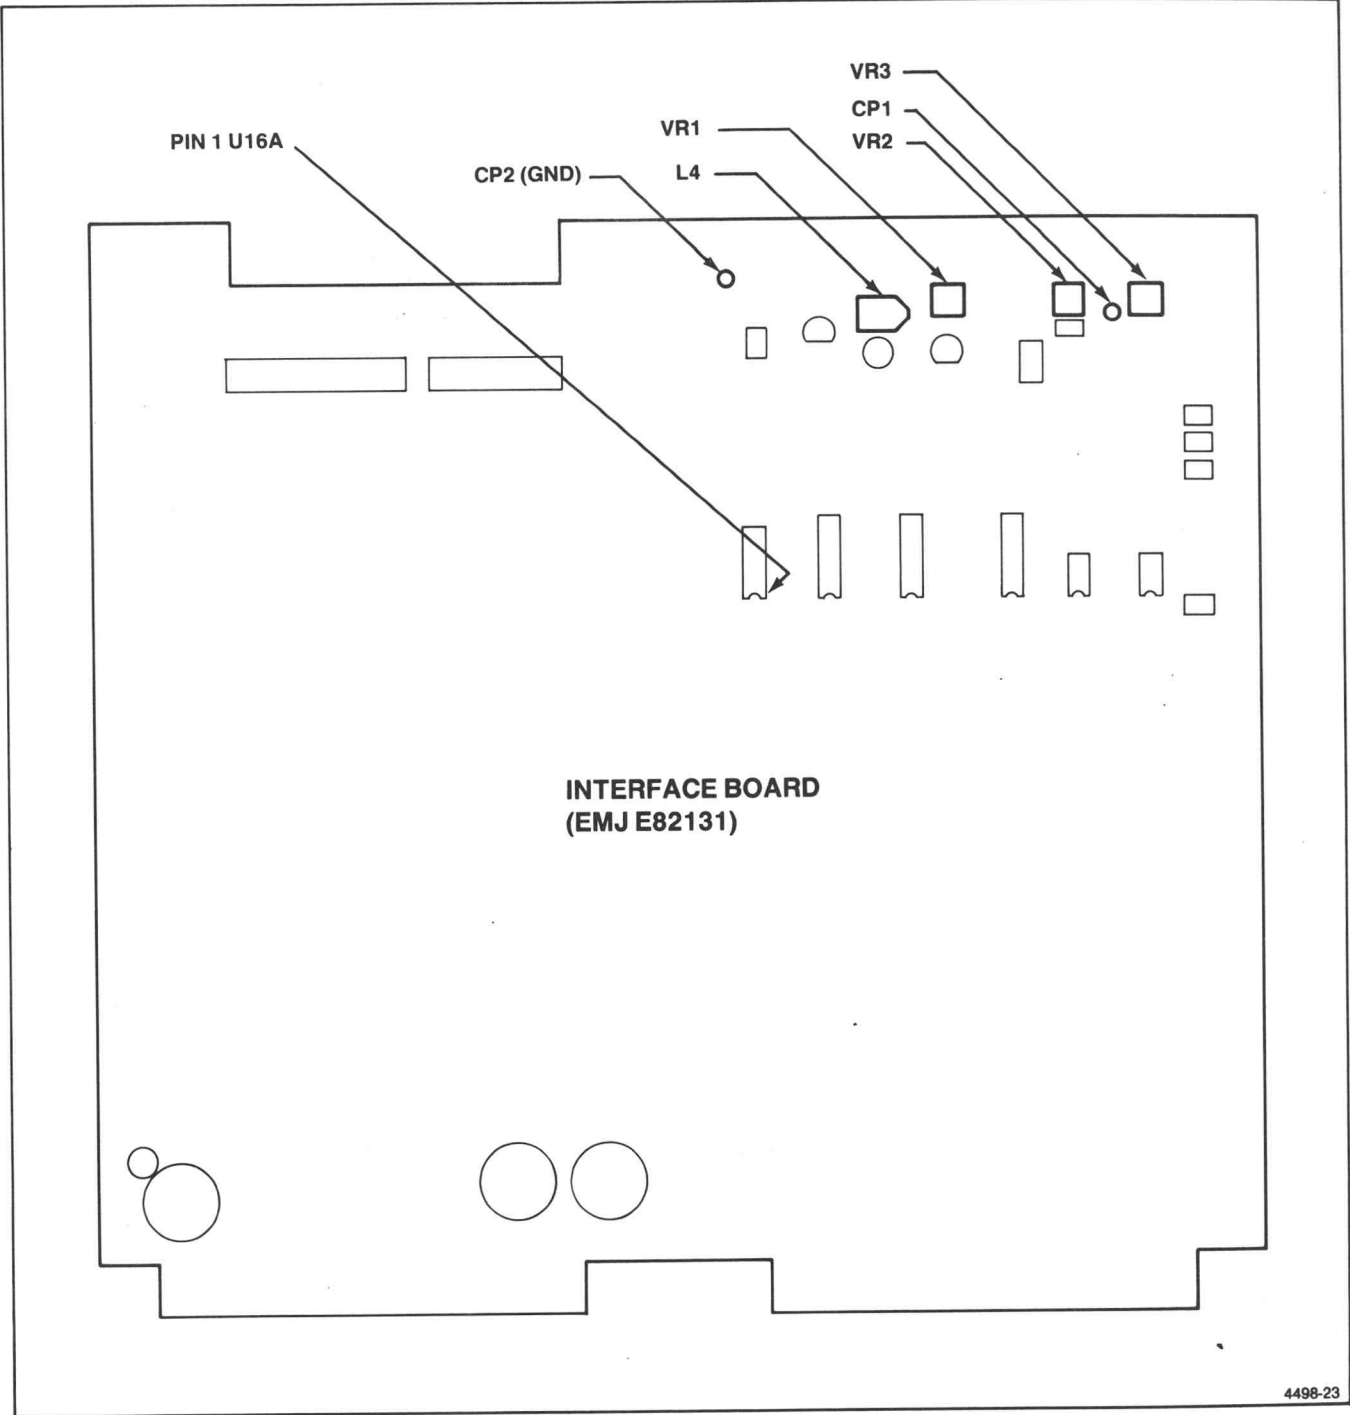

Figure 5-5. Interface Circuit Board Test and Adjustment Locations.
5. Attach the ground lead of an oscilloscope to CP2 on the Interface circuit board (see Figure 5-5).
6. Attach the signal lead of the oscilloscope to Pin 1 of U16A (see Figure 5-5).
8. Adjust L4 (see Figure 5-5) for a 2uS plus or minus 0.5uS pulse. The signal should look like that in Figure 5-6A.
9. Attach the signal lead of the oscilloscope to CP1 on the Interface circuit board (see Figure 5-5).